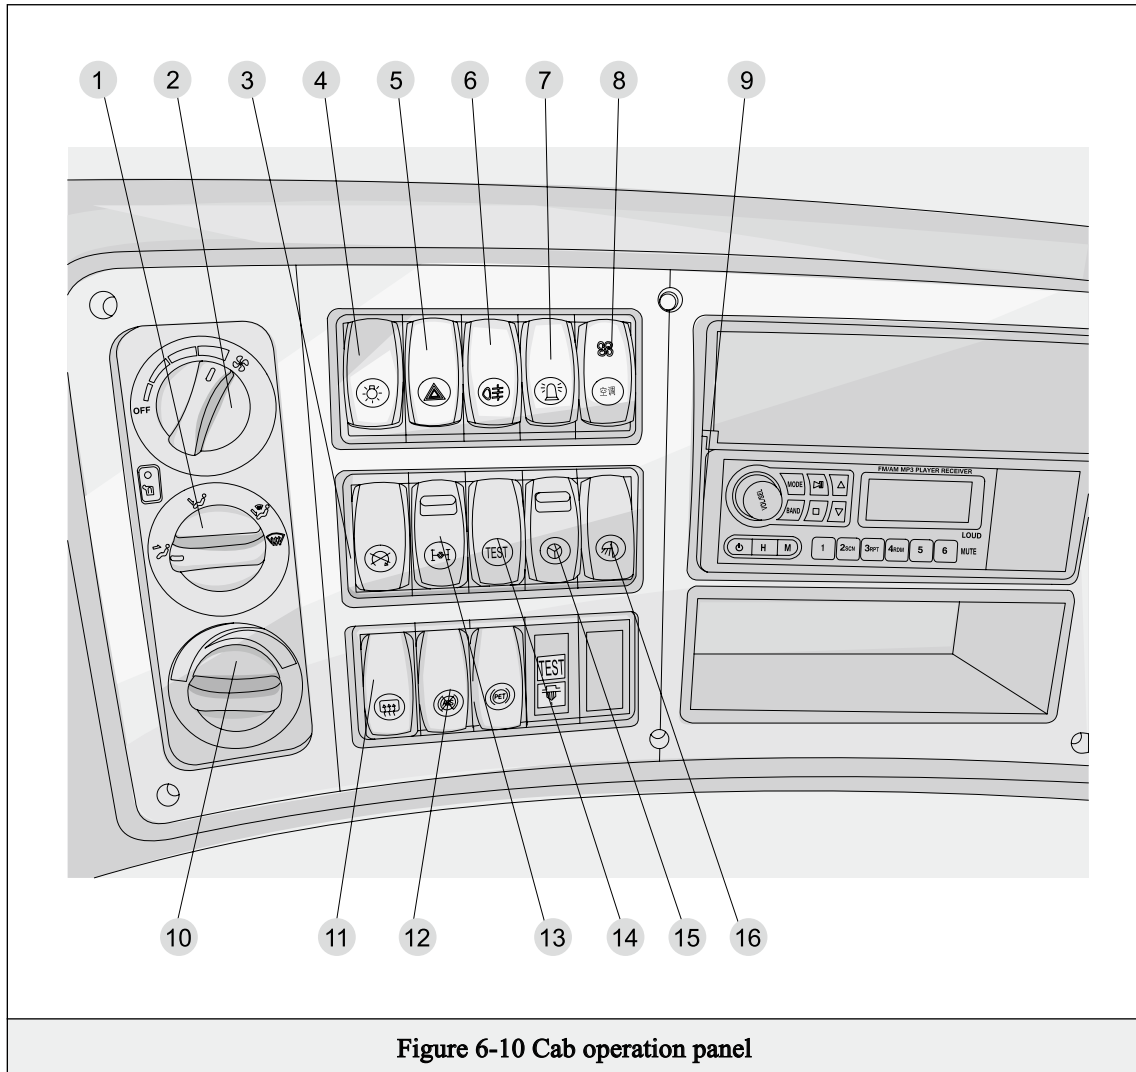
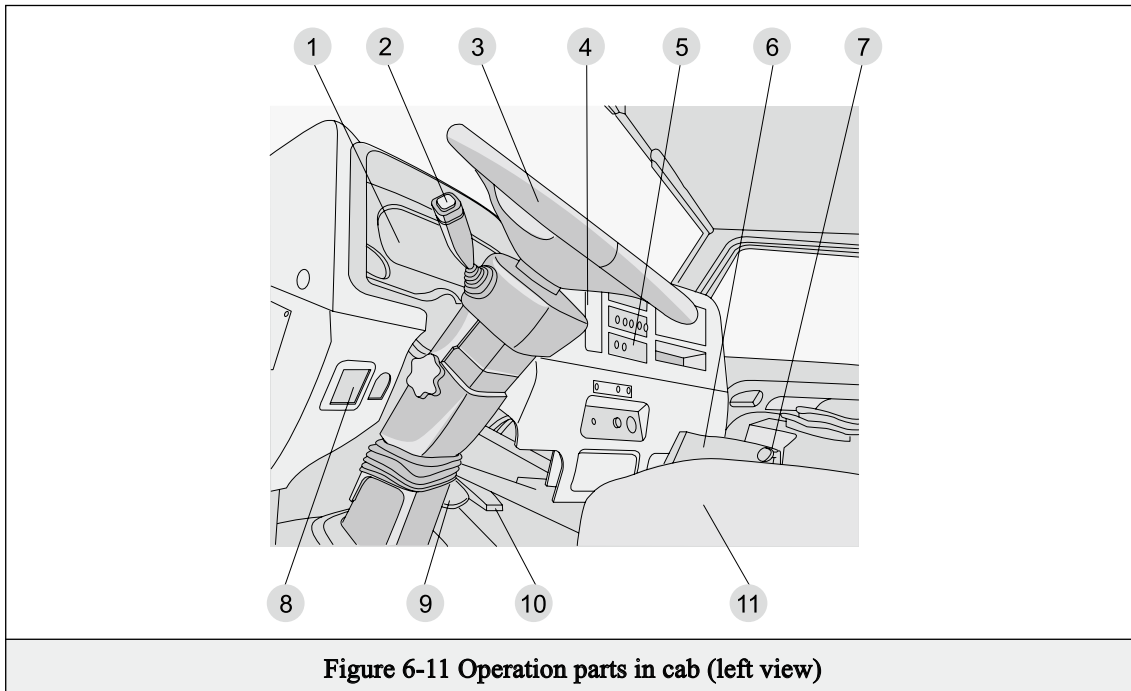

Figure 6-10 Cab operation panel
Figure 6-11 Operation parts in cab (left view)
3. Power take-off switch (11 in Figure 6-10) and indicator light (20 in Figure 6-7)
When the vehicle is parked in the operating position, pull the hand brake, make the engine idling, step on the clutch pedal to separate the clutch, and then manipulate the shift lever to make the transmission in gear 4 state, press the power take-off switch (11 in Figure 6-11), release the clutch pedal, then the power take-off gear and transmission gear mesh smoothly, the power take-off works. On the contrary, step on the clutch pedal to separate the clutch, the power take-off switch reset, manipulate the shift lever to make the gearbox in neutral position, release the clutch pedal, then the power take-off gear smoothly disengages with the transmission gear.
10. Lighting master switch (4 in Figure 6-10) (2 in Figure 6-11)
11. Fog lamp switch (6 in Figure 6-10) and fog lamp indicator light (3 and 23 in Figure 6-7)
12. Warning light switch (optional) (7 in Figure 6-10)
13. Air conditioning switch (8 in Figure 6-10)
14. Emergency signal switch (5 in Figure 6-10)
15. Differential locking switch (13 in Figure 6-10) and differential indicator (18 and 21 in Figure 6-7)
16. Heater adjustment switch (1,2 and 10 in Figure 6-10)
17. Hand brake handle (7 in Figure 6-11 in the sequencer) and hand brake indicator light (6 in Figure 6-7)
19. Flameout switch (3 in Figure 6-10)
20. Rearview mirror heating switch (16 Figure 6-10)
21. ABS failure switch (optional) (12 in Figure 6-11)
23. Electric mirror switch (8 in Figure 6-11)